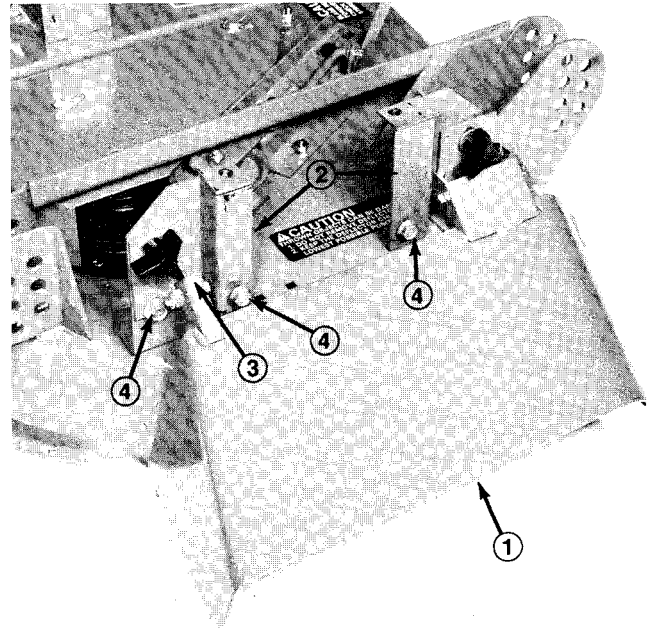

Figure 20
7. To remove blower assembly, disengage idler assembly, remove belt cover and lift belt off spindle pulley. Remove (2) knobs and washers securing blower to mounting brackets and remove blower and chute. Slide cutting unit grass deflector onto alignment bolts and secure to mounting brackets with knobs and washers. Reinstall belt cover (Fig. 20).